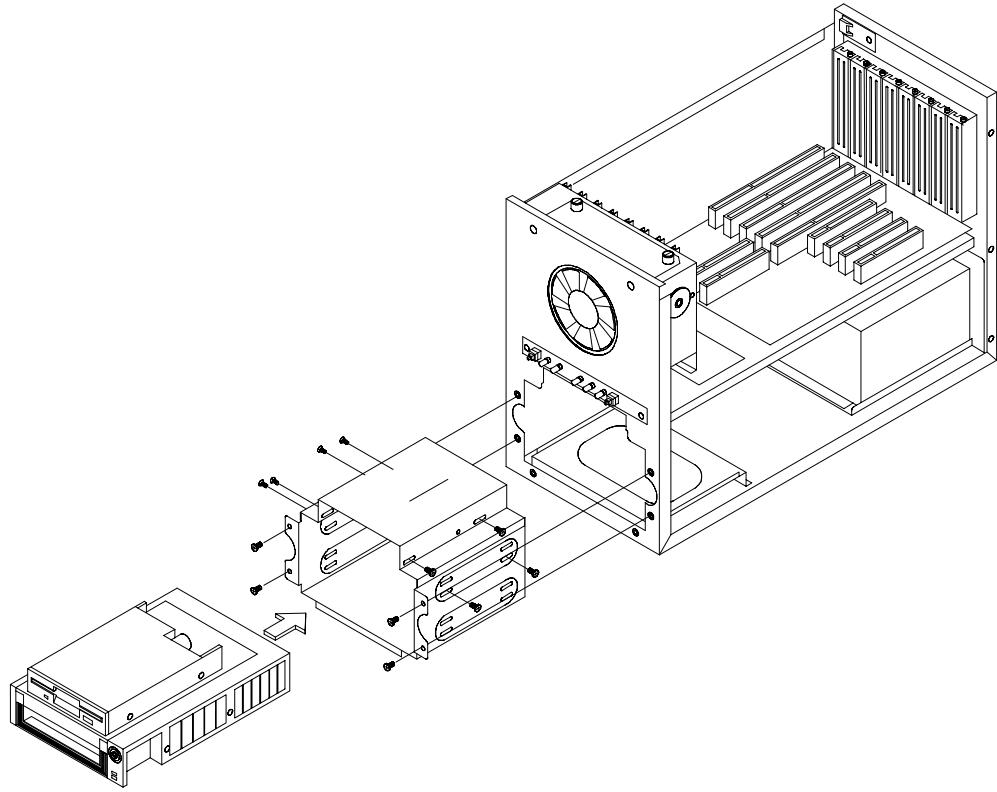

Figure 2-8: Inserting the drives into the drive bay
4. Slide the drive bay toward the front and lift it free from the chassis. Install the disk drives into their proper locations in the drive bay. See Figure 2-8: